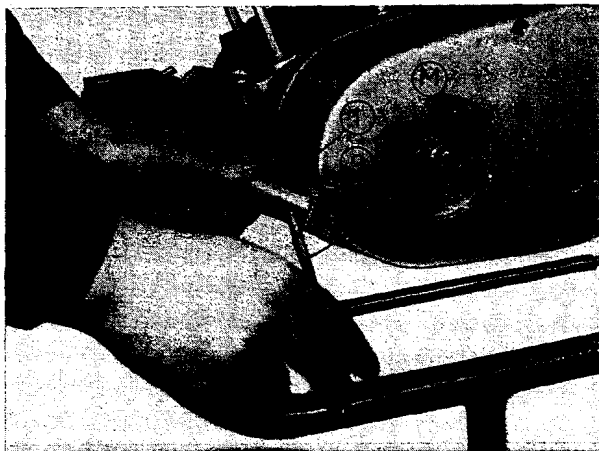

Fig. 85. Rough adjustment of the clutch
Push bearing bush (17) with supporting bearing 6302 of crankshaft (retained by circlip) from outside into the clutch cover, the markings (M) must point upwards, Fig. 85. Turn the pressure lever (16) from inside into the threaded worm of the bearing bush fully down and hook on the tie rod (19).